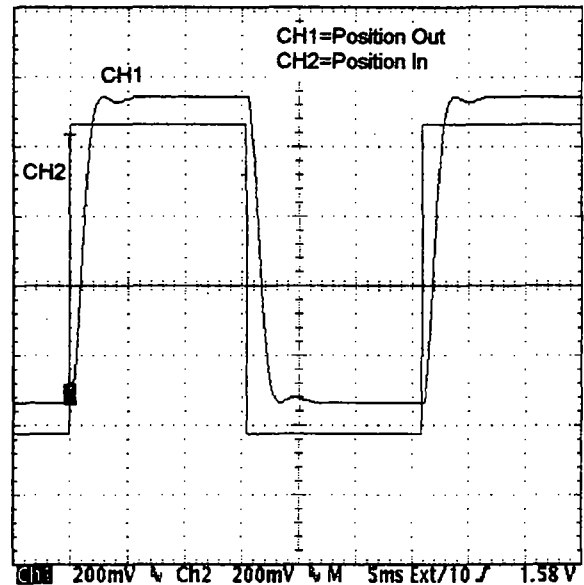

Figure 20.
8. Turn R25 CW to minimize the first overshoot and to minimize the oscillations. See figure 20.